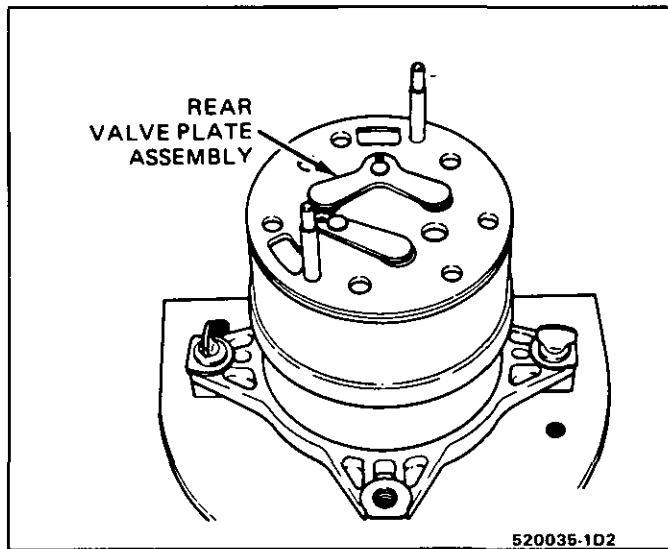

Fig. 34 Rear Valve Plate Assembled To Cylinder Assembly
4. Install rear valve plate over the J-33016 guide pins as shown (Fig. 34).